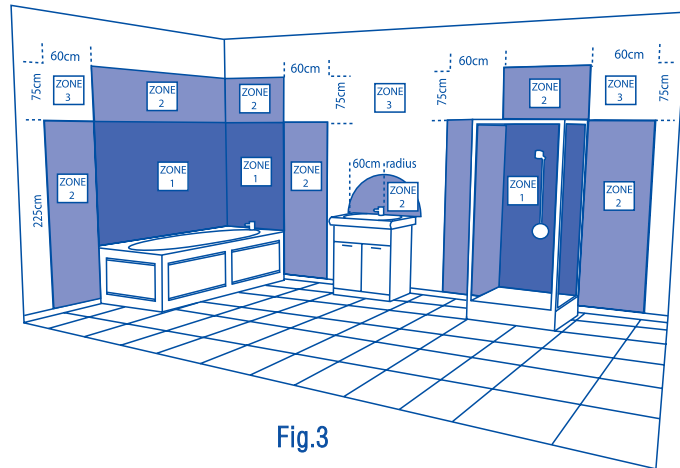

Fig.3
- This fitting is IP68 rated and is protected against immersion in water to a maximum depth of 2m when correctly installed. It is suitable for installation in locations containing a bath or shower, as defined by the I.E.E Wiring Regulations, Zones 0, 1, 2 & 3. See Fig.3 below.